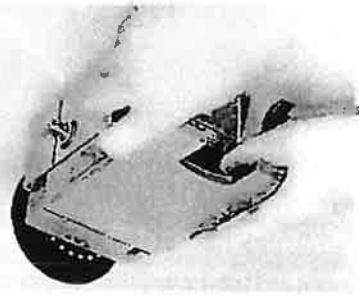

Figure 2
- Grasp the Top Slider and pull it towards you to remove it from the lower Microtome assembly (Figure 2).
9. Install the Top Slider back onto the lower Microtome assembly by reversing the action shown in Figure 2. Gently push back on the Top Slider until it stops against the lead screw. Do not allow the Top Slider to ram against the lead screw. Turn the Coarse Feed Wheel counterclockwise to engage the Top Slider to the lead screw.